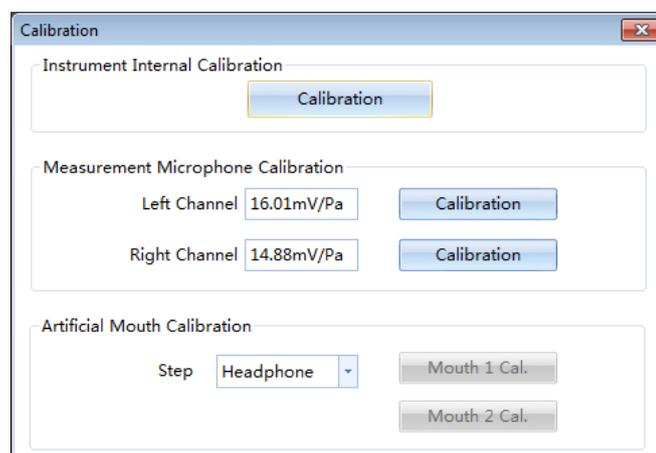
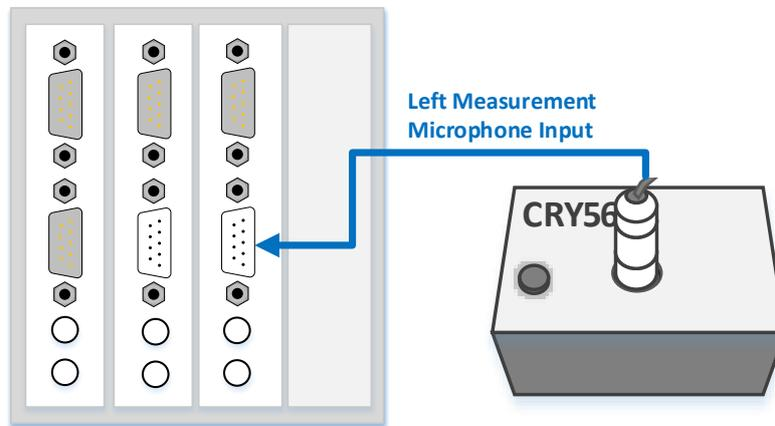

Figure 3.16 Instrument Calibration
Figure 3.17 Connection Diagram of Left Microphone
Open mode: select the “Calibration (A)” → “Calibration F7”, or right click the curve interface to select “Calibration”. Figure 3.16 pops up.
Calibrate the left measurement microphone, and the connecting line is shown in Figure 3.17. The calibration data is as shown in Figure 3.16. The value is closely related to the type of microphone. If the value is obviously smaller than normal, you have to check whether the CRY6151 sound level calibrator is powered, the power is enough, or the line is well connected and so on.